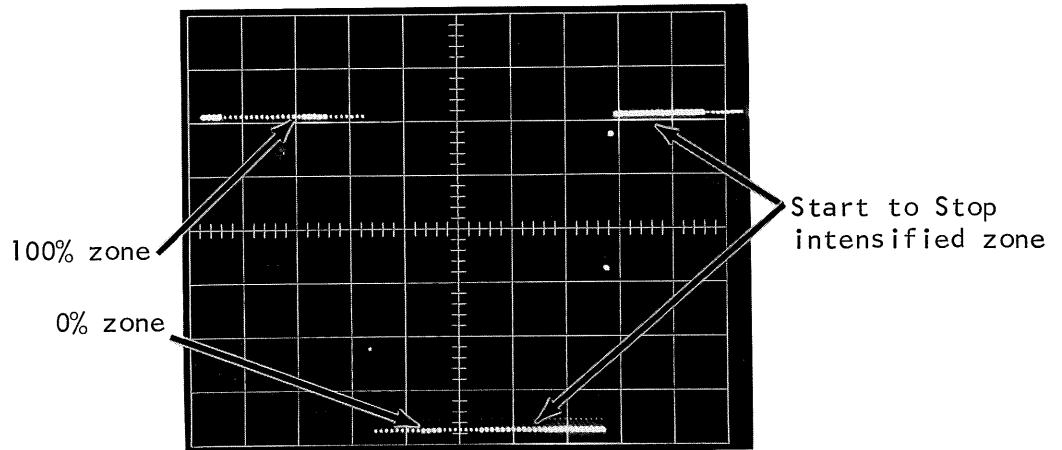

Figure 3-54
2. On the 6R1A, set the TIMING START and TIMING STOP controls to MANUAL and the START and STOP control to FIRST + SLOPE. Set the MODE to TIME STOP (-) START. Set the MANUAL controls so the intensified zone starts before the first positive (+) slope and so the intensified zone stops after the first positive (+) slope. See Figure 3-54.